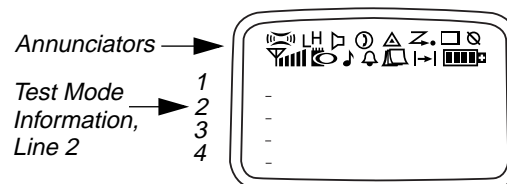

Figure 4-2. Four-Line Display
3. After "CSQ CHXX SP25" appears on the display, the radio is on channel XX (see **Note** below), carrier squelch mode, 25 kHz channel spacing. Each additional press of side button 2 (see Table 4-2) scrolls to the next channel spacing, and a corresponding set of tones are sounded. Refer to Figure 4-2 for test mode information for a four-line display radio.